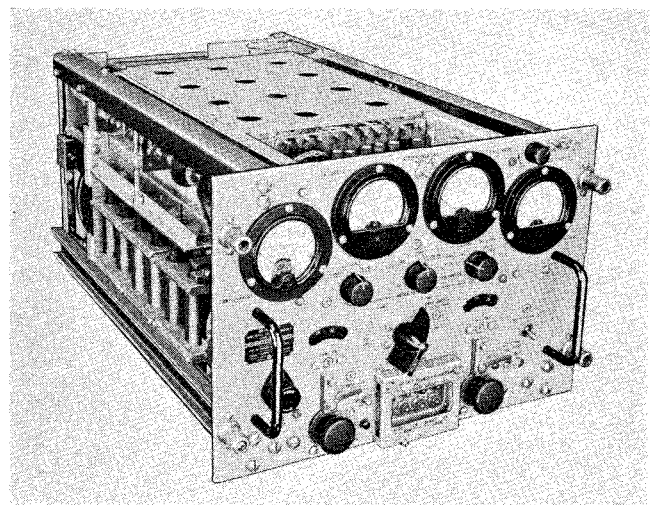

Figure 1-4. Radio Frequency Amplifier AM-1008/SRT, Front Oblique View
(1) RADIO FREQUENCY AMPLIFIER AM-1008/SRT (RADIO FREQUENCY AMPLIFIER, RFA). (See figure 1-4.)—The basic function of the radio fre-